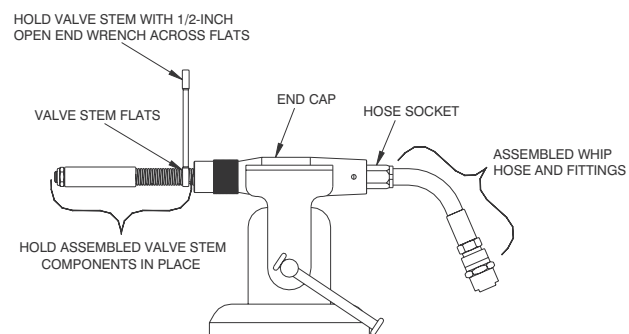

Figure 11-25. Hold Valve Stem in Place.
with an 1/2-inch open end wrench. Refer to Figure 11-25.
7. Push the Valve (7) toward the End Cap (16) until the flats of the Hose Socket (17) project from the Whip Hose end of the End Cap. Refer to Figure 11-25.